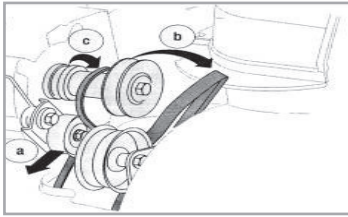

Fig.29
- c. Lift the drive belt off engine pulley. See Figure 29.